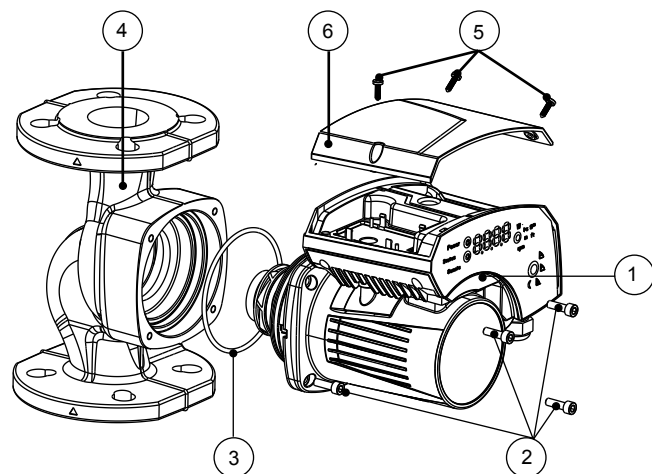

Figure 2: Change the position of the pump head
- 1. Open the terminal box cover removing the screws (5). Refer to figure 2 on page 7. Use control screwdriver described under section 4.2 to access terminal blocks.